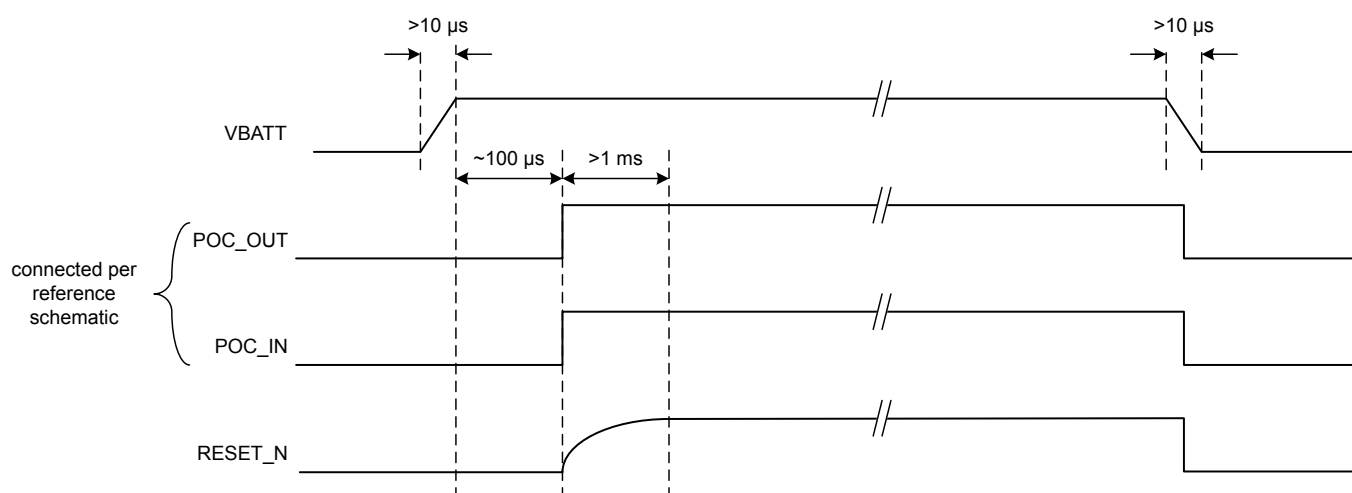

Figure 7.1. Power Up Sequence
- **RESET_N:** RESET_N is an open-drain signal which will be pulled low during a chip reset. It is released after POC_IN is high. RESET_N should be connected to an RC circuit to fulfill the timing requirements shown in Figure 7.1 Power Up Sequence on page 96.
Figure 7.1 Power Up Sequence on page 96 shows the signal timing when POC_OUT, POC_IN, and RESET_N are connected per the recommended schematic. The POC_IN-to-RESET_N delay will occur when POC_IN transitions from low to high. VBATT in the figure refers to the connection of UULP_VBATT_1 and UULP_VBATT_2 (connected together in the schematic).